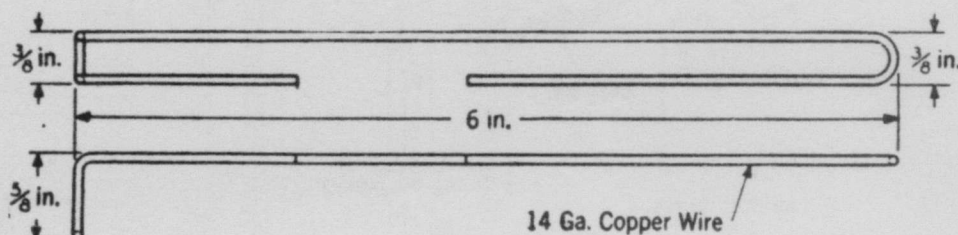
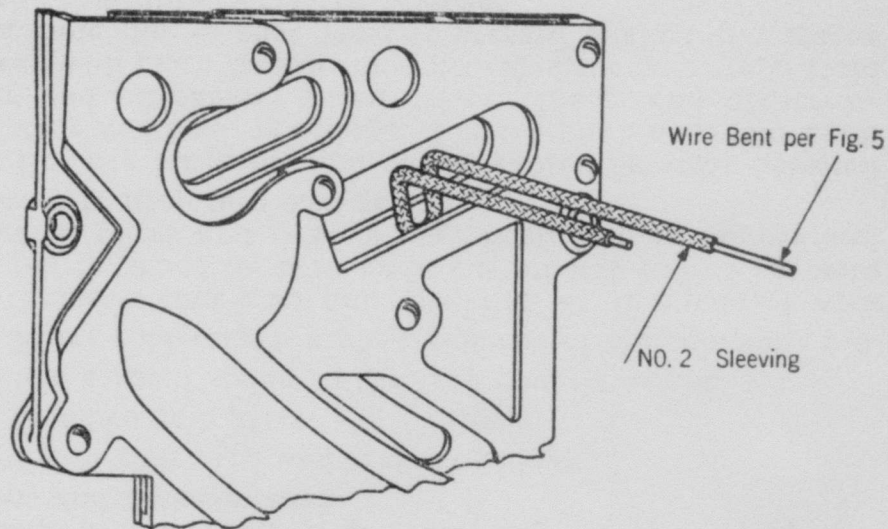
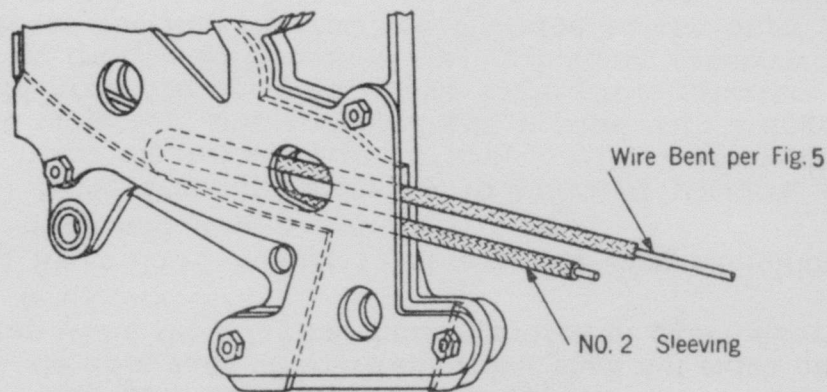

Fig. 5.
Fig. 6.
Fig. 7.
- (b) Make a chute cleaner from No. 14 bare copper wire as shown on Fig. 5. Slip a clean piece of No. 2 sleeving (P-103007) over each end of the wire and clean the runways as shown on Fig. 6 and Fig. 7. Use C. P. carbon tetrachloride to aid in the removal of any sticky substance from the runways.